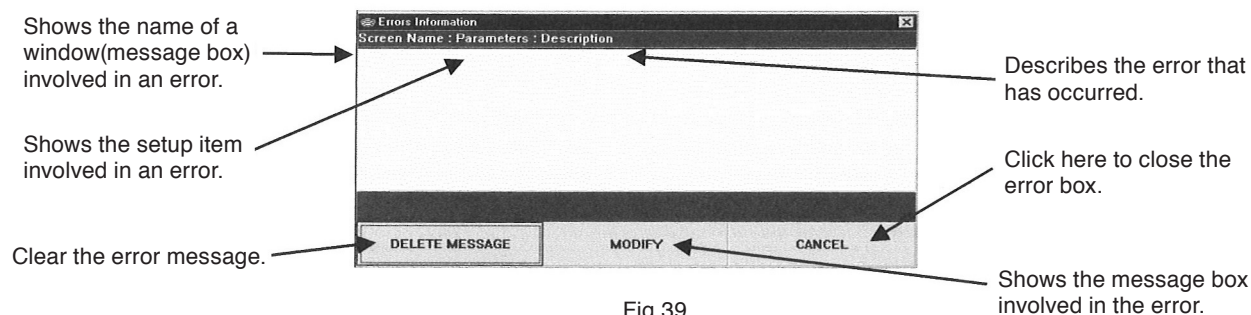

Fig.39
- ② A little later, an error box "Communication error" as shown in Fig. 39 appears.